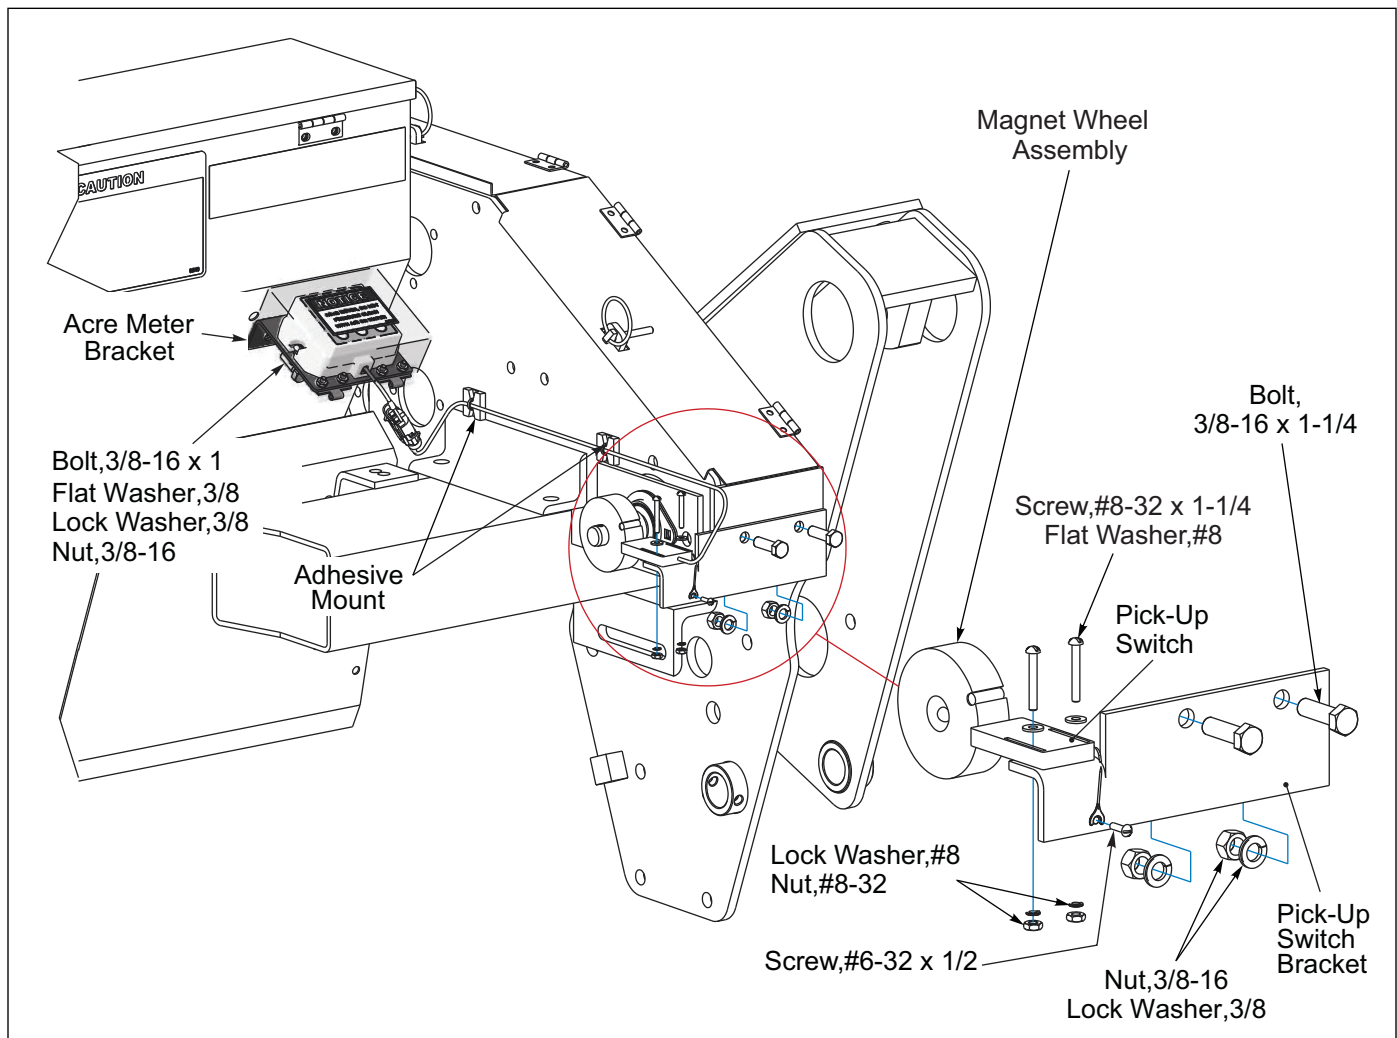

Figure 2-20: Electronic Acre Meter
2. Attach the Acre Meter Bracket to the Seed Box with 3/8-16 x 1 Bolts, Flat Washers, Lock Washers and Nuts. See Figure 2-20.